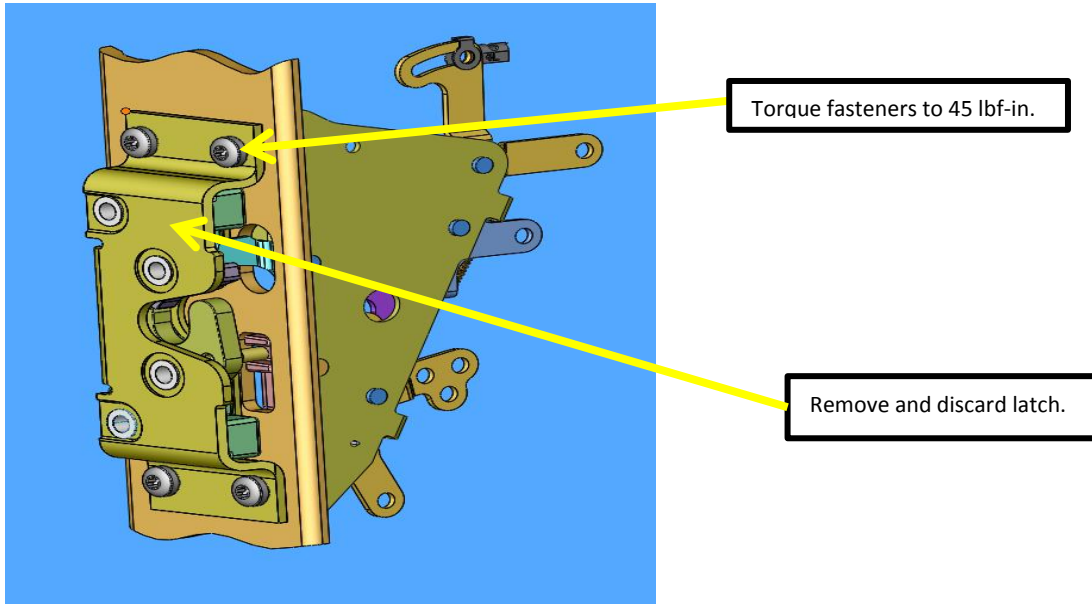

FIG. 10-1
8. Change door latches and fasteners P.N. 0533-EE3-001, 0533-EE3-002, 0202-BB1-017 and M06100FNZ. Properly dispose of old latches and fasteners. NOTE: two fasteners toward outside of door utilize nuts for mounting. Ensure these do not fall into the door frame when removing or installing. Torque fasteners to 45 lbf-in. Refer to FIG. 10-1, FIG. 10-2 and FIG. 11-1.